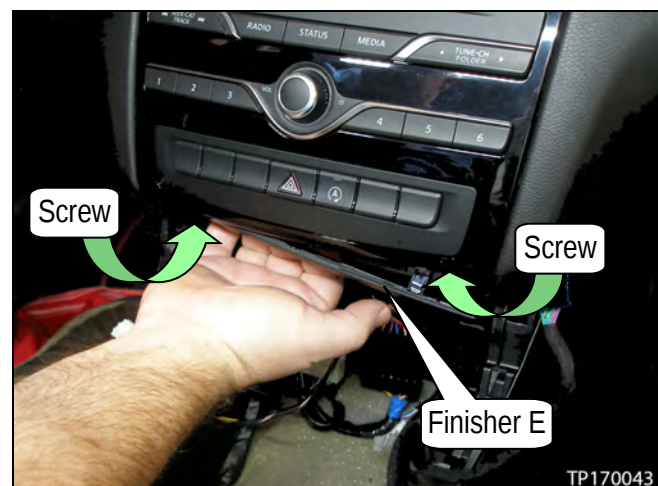
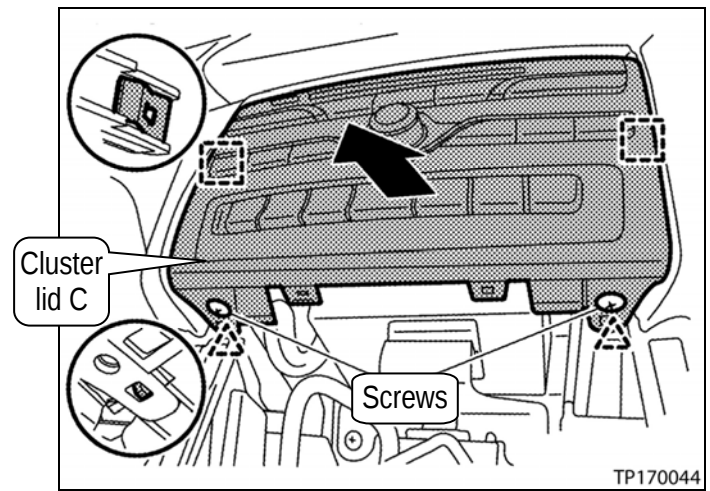

Figure 12
Figure 13
3. Remove instrument finisher E, and then remove the hidden screws (see Figure 12, and next page, Figure 13).